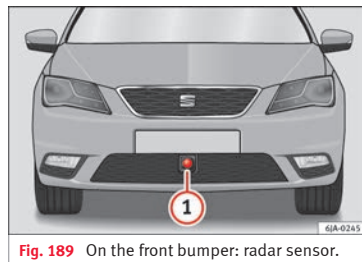

Fig. 189 On the front bumper: radar sensor.
» **Fig. 189 ①**. This sensor can detect vehicles in front up to a distance of approximately 120 m.